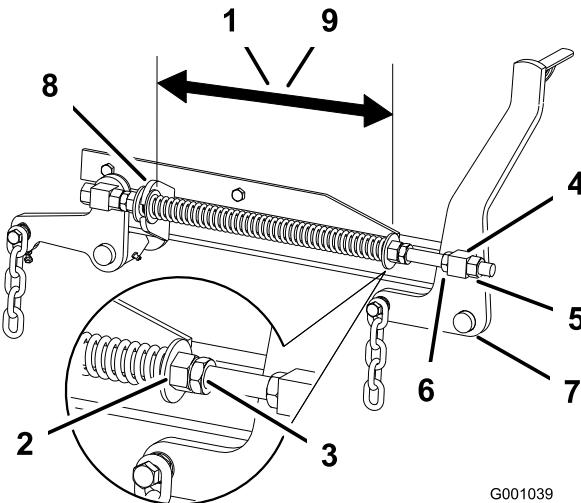

Figure 77
2. Check the distance between the two large washers, it needs to be 10-1/2 inches (26.7 cm) for 60 inch mower decks or 11-1/2 inches (29.2 cm) for 72 inch mower decks (Figure 77).
3. Adjust this distance, by loosening the spring jam nut and turning the nut in front of each spring (Figure 77). Turning the nut clockwise will shorten the spring; counter-clockwise will lengthen the spring.
4. Lock the nut into position by tightening the spring jam nut (Figure 77).